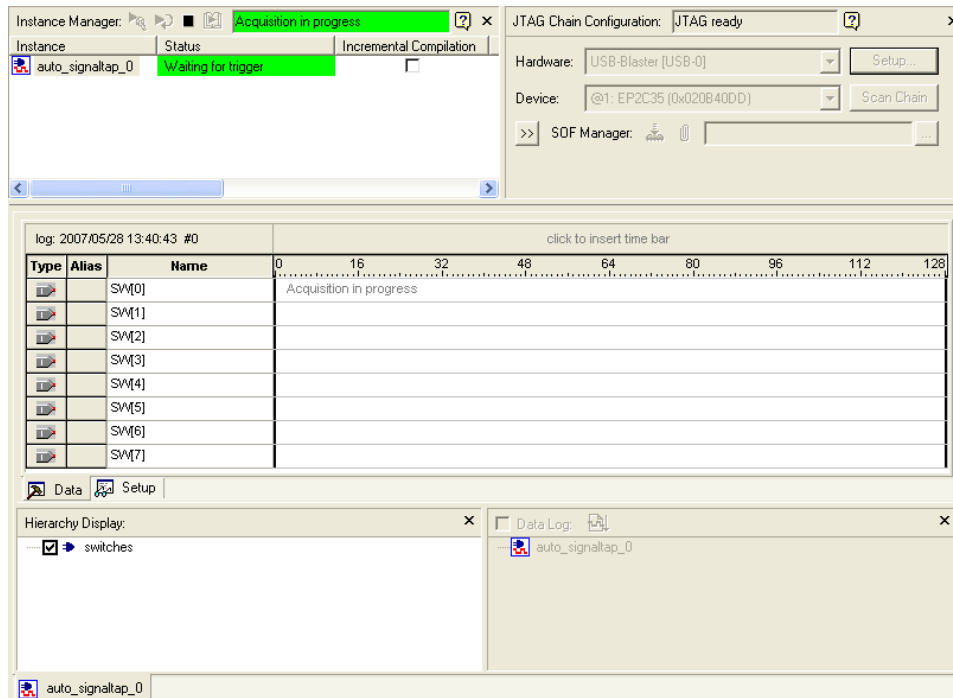

Figure 14. SignalTap II window after Run Analysis has been clicked.
2. Select **Processing > Run Analysis** or click the  icon in the SignalTap window. Then, click on the **Data** tab of the SignalTap II Window. You should get a screen similar to Figure 14. Note that the status column of the SignalTap II Instance window says "Waiting for trigger." This is because the trigger condition (Switch 0 being high) has not yet been met. (This is of course if Switch 0 is actually low as instructed in the previous step. If it is not, set it to low and then click Run Analysis again).